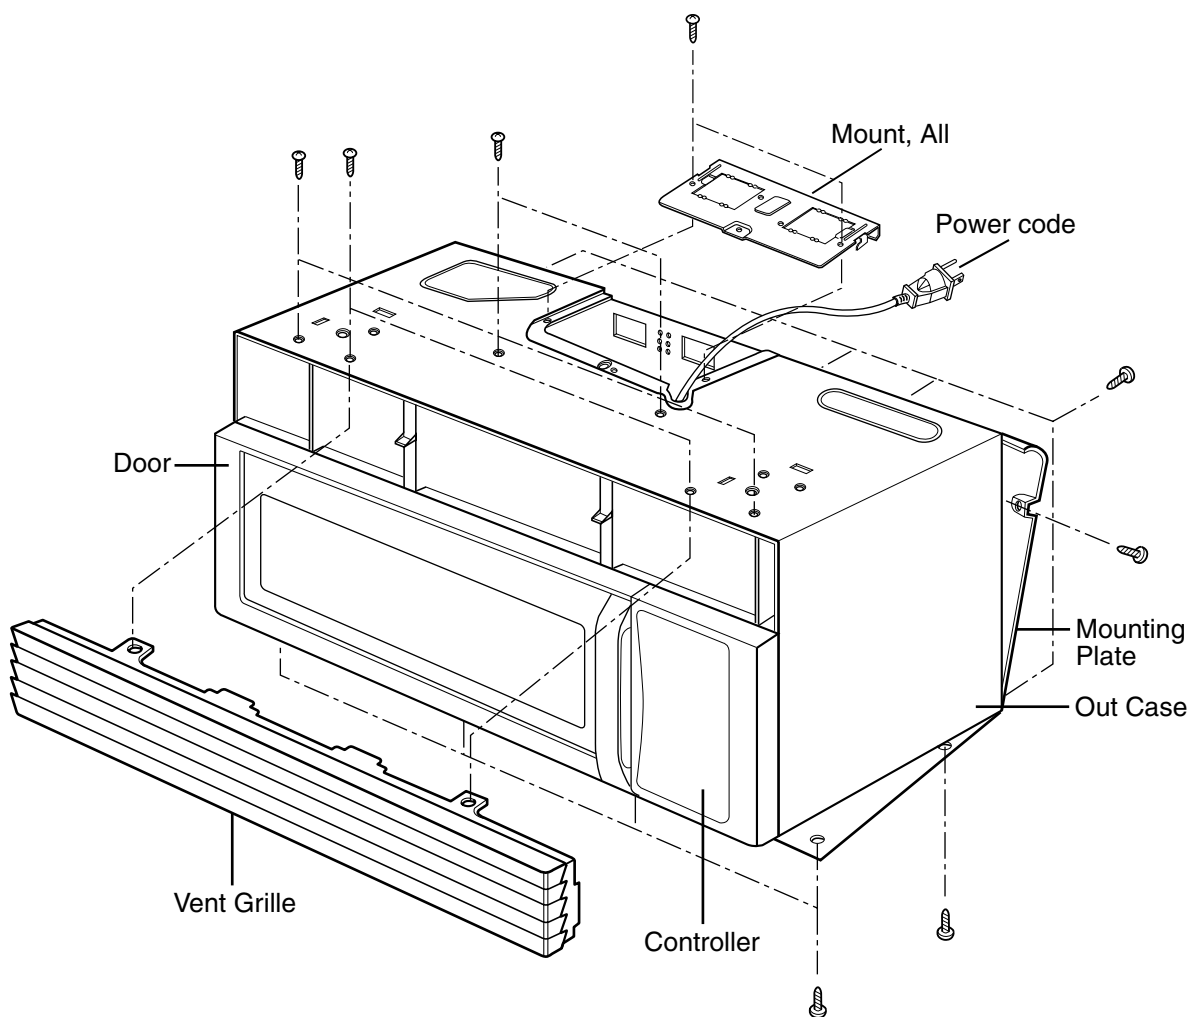

Figure 8
B. REMOVING THE OUT CASE(Figure 8)
- (1) Remove the vent grille by removing two screws securing it to the out case.
- (2) Remove two screws securing it to the front bracket.
- (3) Remove two screws securing it to the air duct.
- (4) Remove the mounting plate by turning the two screws securing it to the out case.
- (5) Remove the base plate by removing six screws securing it to the out case. Remove the Mount, All from the out case by removing two screws securing it to the out case and one screw securing it to the ventilation motor ASS'Y and cavity.
- (6) Remove the power cord cover from outcase by removing a screw.
- (7) Remove the power cord to the inner of the out case with turning power cord and remove the out case with pushing it back.